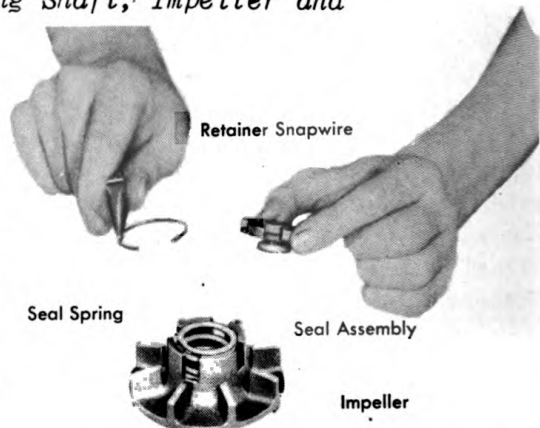
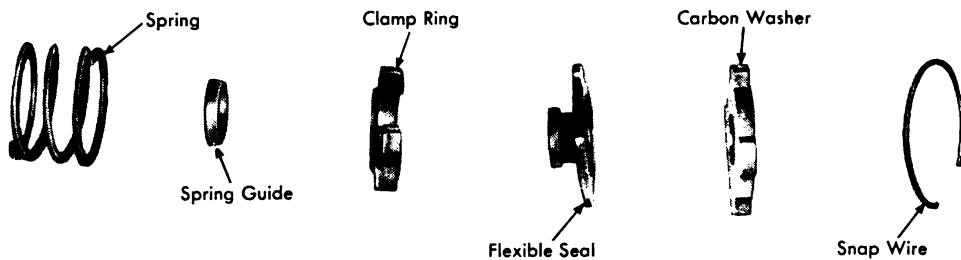

Figure 277. Removing Snap Ring from Impeller.
Figure 278. Seal Assembly.
4. Remove the snap ring from the impeller to remove the seal assembly. See Figure 277.
1. Assemble the seal assembly in its proper order as shown in Figure 278 and insert the spring and seals into the impeller as shown in Figure 277. Insert the snap spring to hold the seal assembly in place.